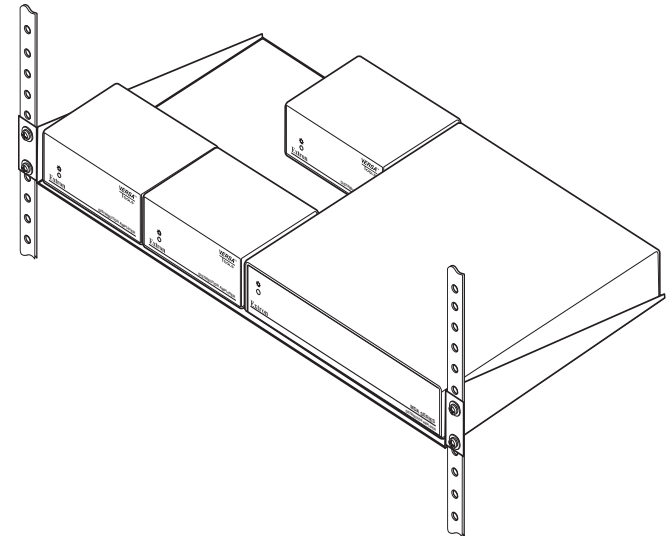

Figure 4 — Mounting the MDA on a standard shelf
- RSU 129 1U universal rack shelf kit (part #60-190-01) (figure 4 on the next page)
5. Secure the shelf to the rack using the supplied machine screws (figure 4 on page 3).